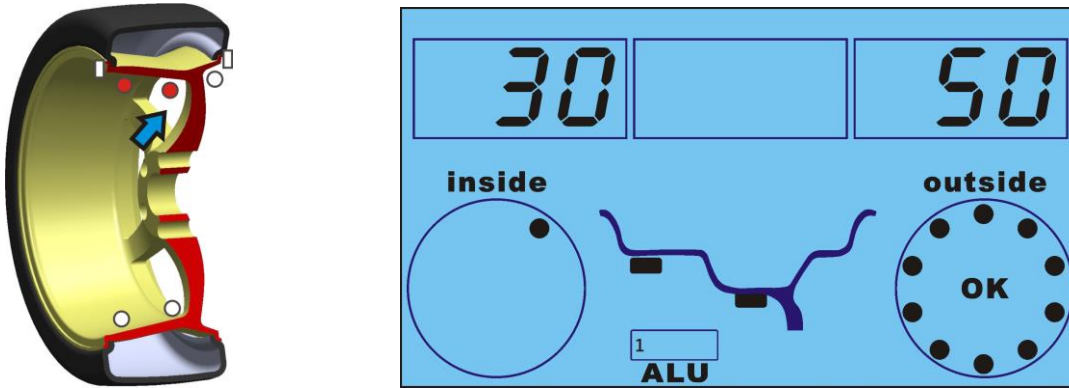

Fig. 6
4.2.5. Anticlockwise moving wheel slowly, the displays with right LED's lit up full indicate the correct angular position where to mount the counterweights, 12 o'clock position outside, as Fig.6, add the counterweight.